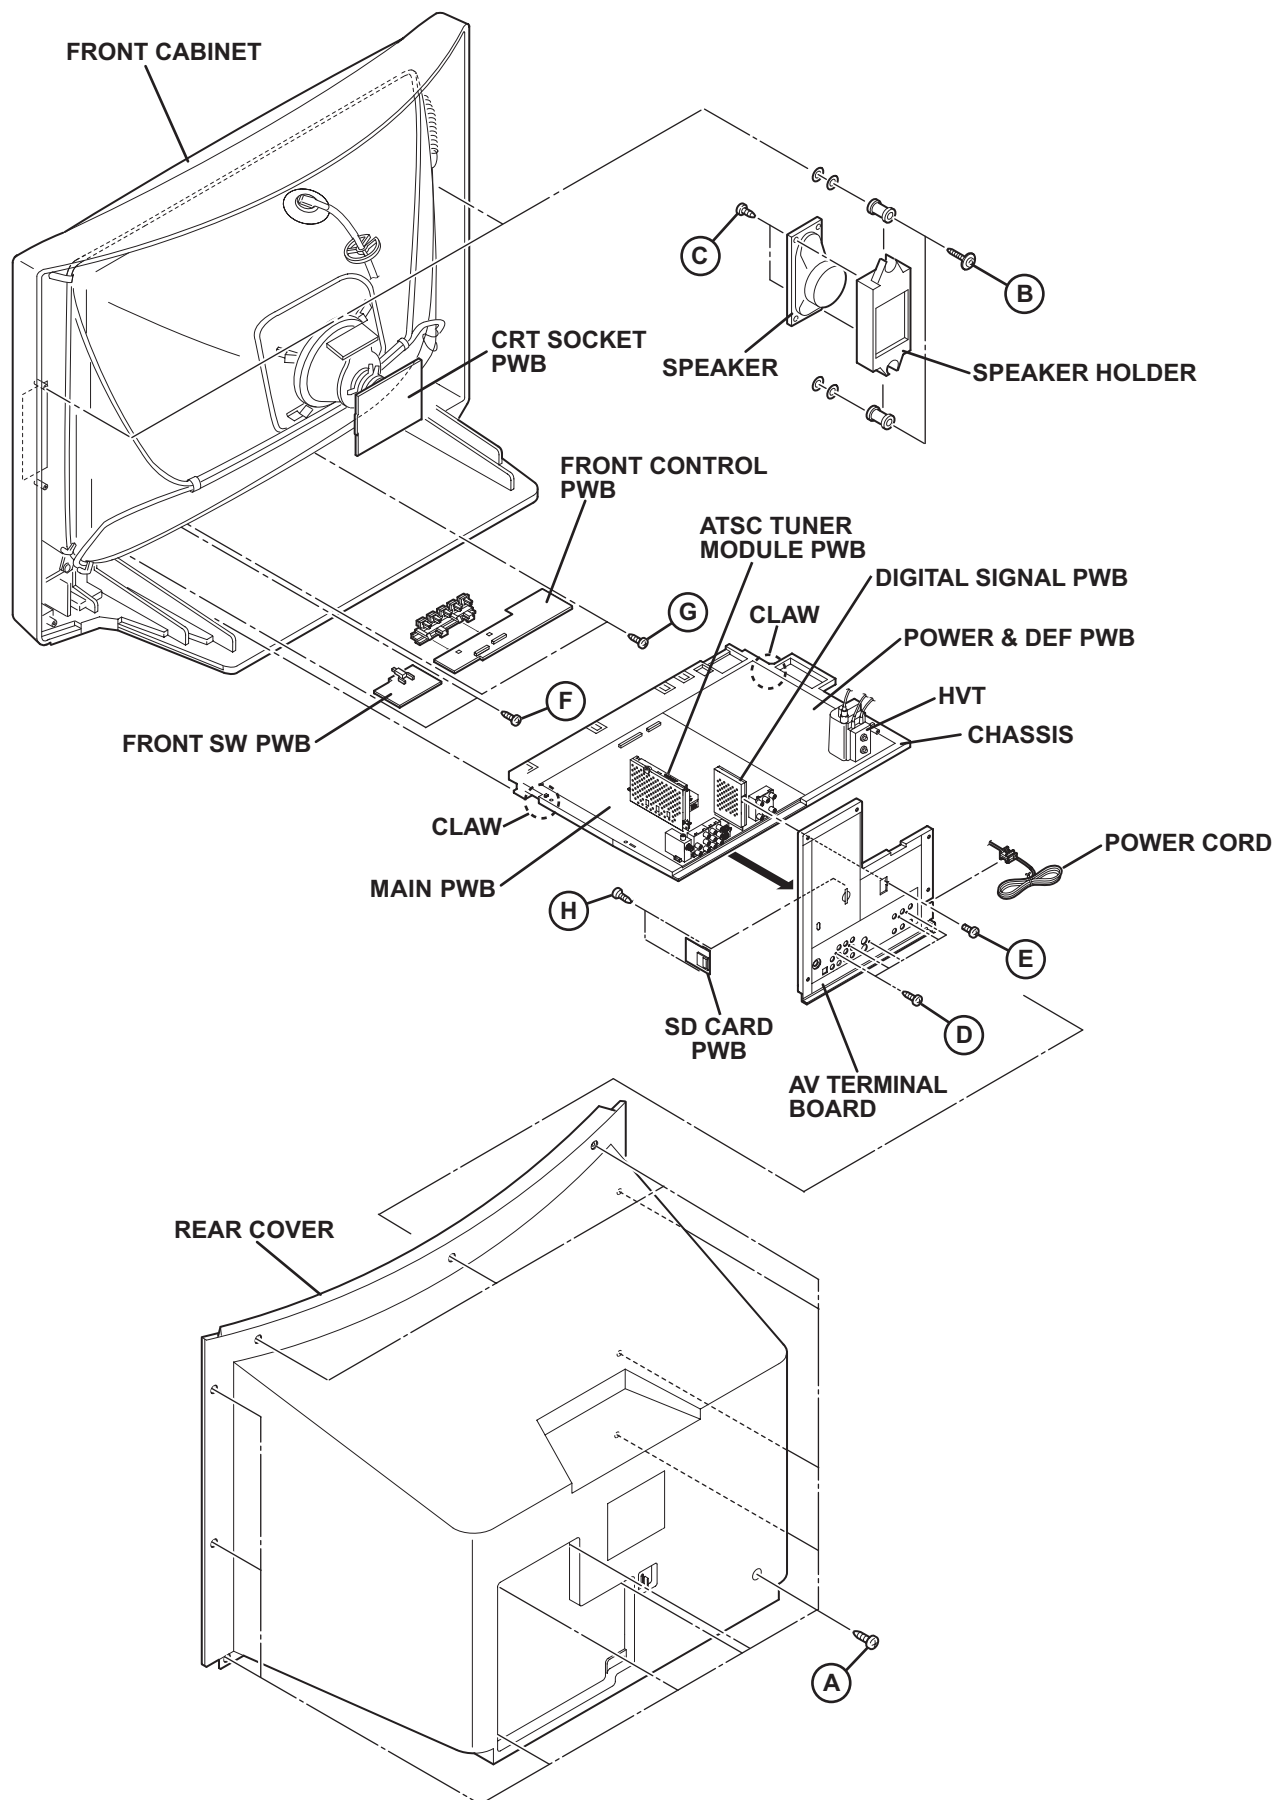

Fig.1
3.1.1 REMOVING THE REAR COVER (Fig.1)
3.1.2 REMOVING THE SPEAKER (Fig.1)
3.1.3 REMOVING THE AV TERMINAL BOARD (Fig.1)
- (1) Remove the 5 screws [D] and 1 screw [E].
- (2) Withdraw the AV TERMINAL BOARD toward you.
3.1.4 REMOVING THE CHASSIS (Fig.1)
3.1.5 REMOVING THE FRONT SW PWB (Fig.1)
- (1) Remove the 2 screws [F].
- (2) Remove the FRONT SW PWB.
3.1.6 REMOVING THE FRONT CONTROL PWB (Fig.1)
- (1) Remove the 2 screws [G].
- (2) Remove the FRONT CONTROL PWB.
3.1.7 REMOVING THE SD CARD PWB (Fig.1)
- (1) Remove the 2 screws [H].
- (2) Remove the SD CARD PWB.
3.1.8 CHECKING THE PW BOARD (Fig.1)
3.1.9 WIRE CLAMPING AND CABLE TYING (Fig.1)